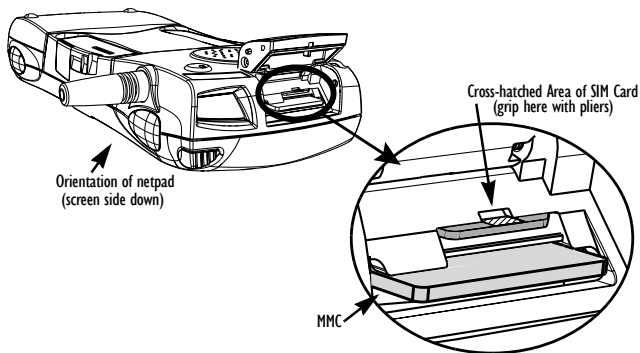

Figure 2.10 Removal Of SIM Card
- Open the card slot door and grasp the card on the cross-hatch area (see Figure 2.10 on page 30), using the special removal tool supplied, a pair of tweezers, or long-nosed pliers. Pull the card out carefully.